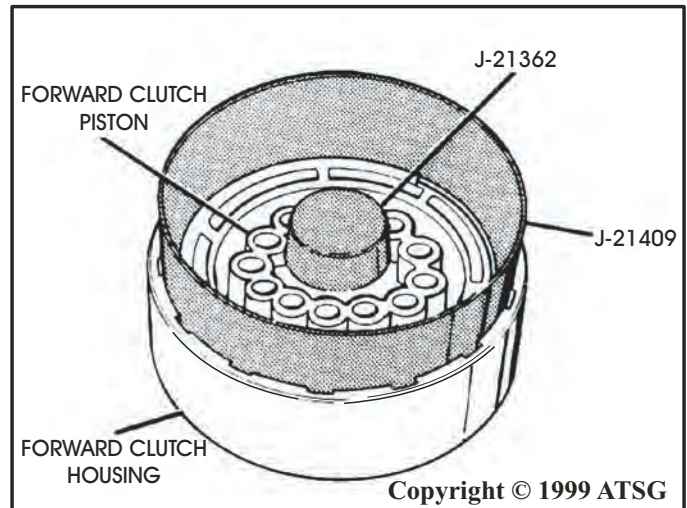

Figure 88
13. Install inner lip seal protector J-21362 on the hub of forward drum (See Figure 88).
14. Install outer lip seal protector J-21409 into the forward drum as shown in Figure 88.
15. Install forward clutch piston assembly into the forward clutch housing using a twisting motion as shown in Figure 88.